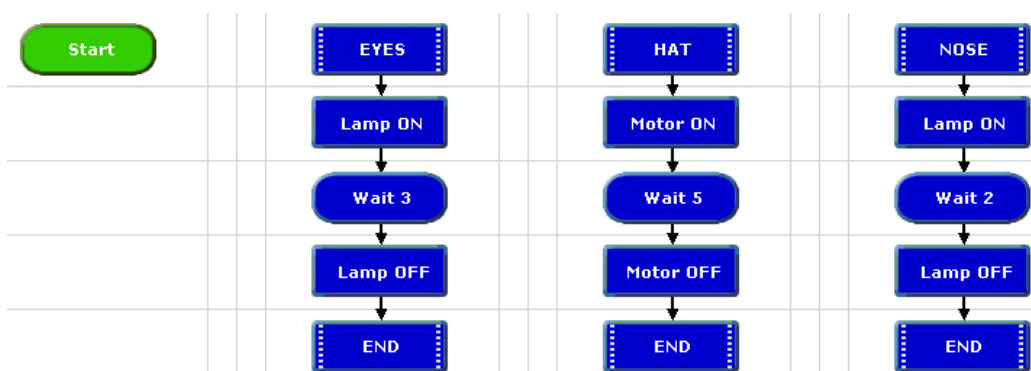

Fig 4.11. In this approach, the procedures are created first.
1. A separate procedure is built and tested for each one of the three elements, as shown in fig 4.11.